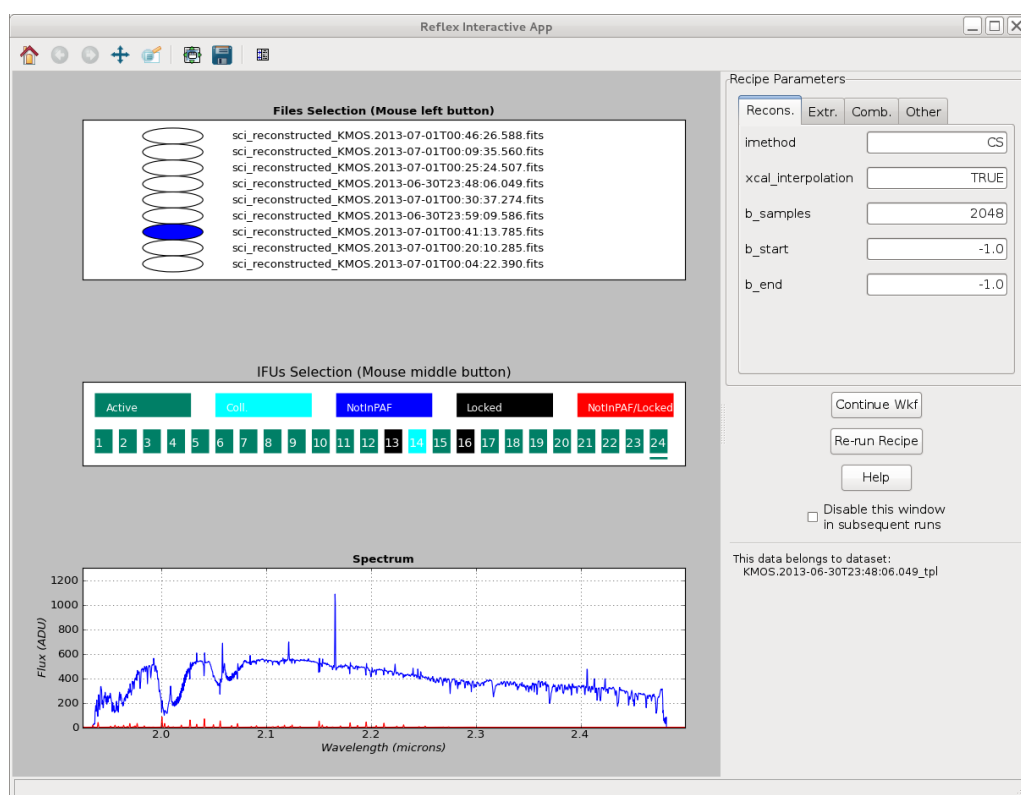

Figure 9.3: The interactive window for the Science Reduction actor as displayed for the KMOS tutorial data set..
5. **Science Reduction:** Figure 9.3 shows the interactive window that will pop-up at the end of the execution of the *kmo\_sci\_red* pipeline routine.